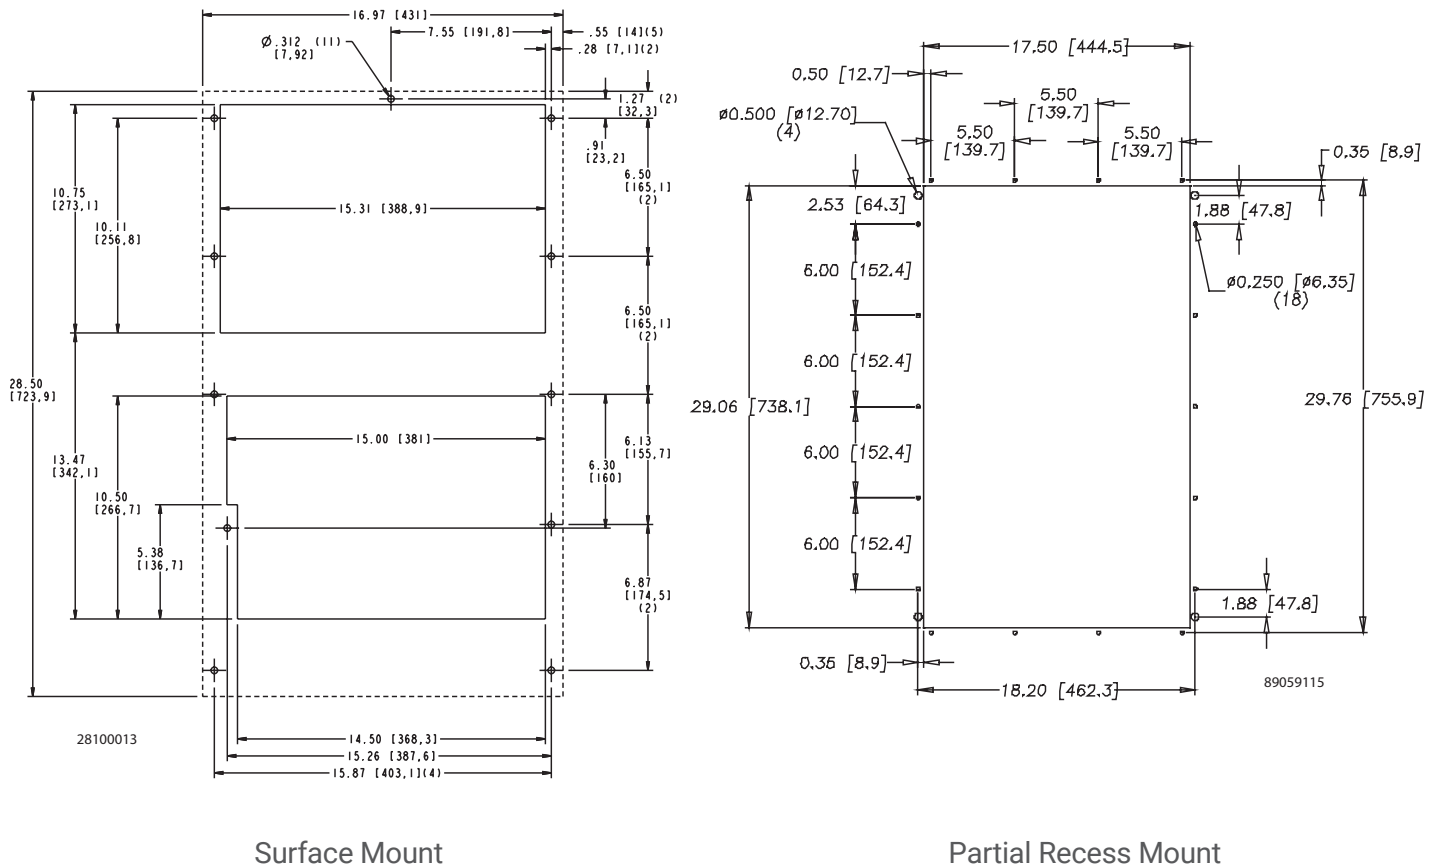

Figure 1
2. Using the mounting gasket kit provided with the unit, install gaskets to the air conditioner, see Figure 1.
5. Allow unit to remain upright for a minimum of five (5) minutes before starting. CAUTION! Air conditioner must be in upright position during operation.